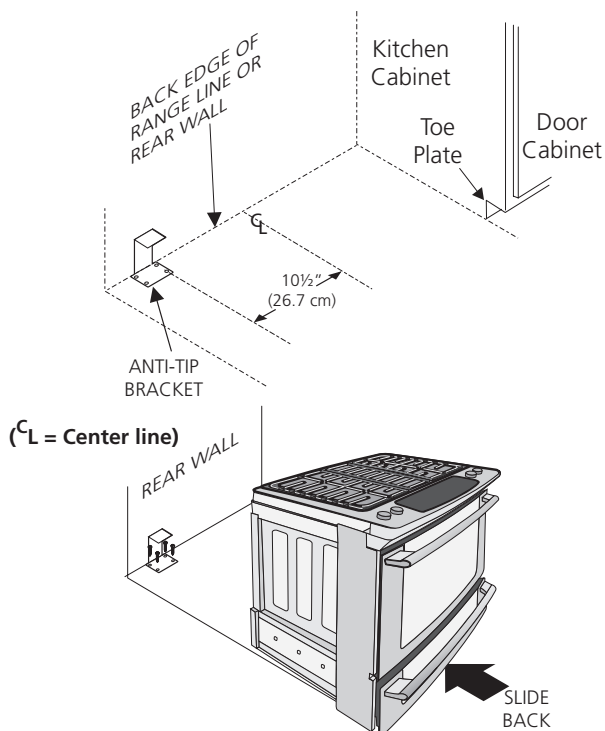

Figure 12
1. Draw a center line (CL) on the floor where the range should be installed. Also draw a line on the floor at the range back position if there is no wall.
2. Unfold paper template and place it flat on the floor with the right rear corner positioned exactly on the intersection of the center and back lines you just drew before. (Use the diagram below to locate brackets if template is not available. (Figure 12))